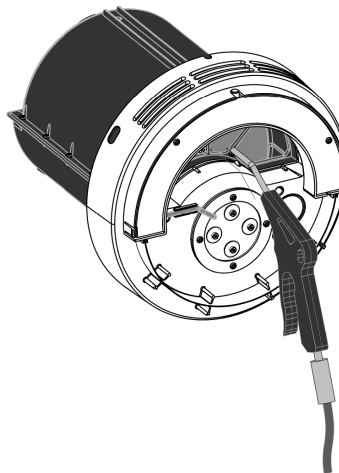

Figure 33 - Carefully clean the ventilation unit with compressed air
6. Place the ventilation unit down on a level surface. Detach the internal cover. Carefully blow on the ventilation unit from the outside part with compressed air to clean it, see Figure 33 below.